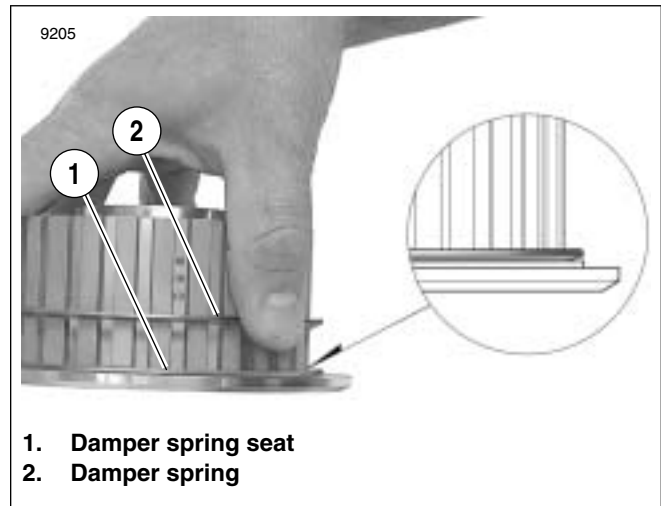

Figure 3-87. Damper Spring Position
1. See Figure 3-87. Place flat steel damper spring seat on the clutch outer hub. Position the damper spring on the damper spring seat with concave side up.